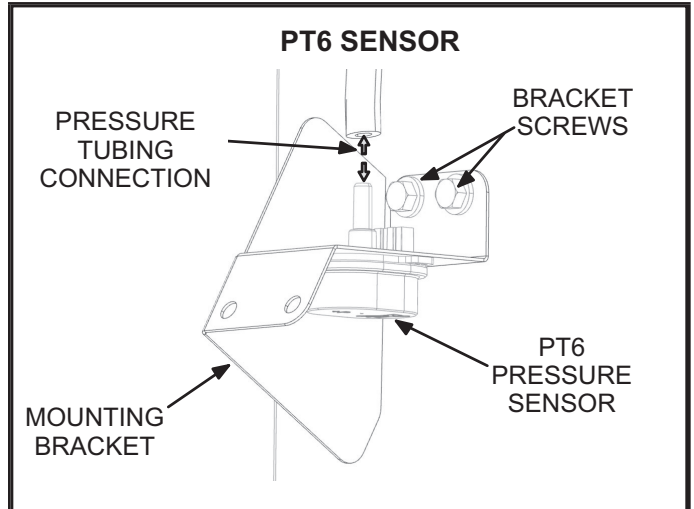

FIGURE 3
- 8 - Disconnect the pressure tubing from PT6 pressure sensor. See FIGURE 3. Remove two screws and remove sensor/bracket assembly (note the orientation) from existing blower housing. Install the sensor/bracket onto the replacement blower assembly. Reattach the tubing in the same manner they were removed.